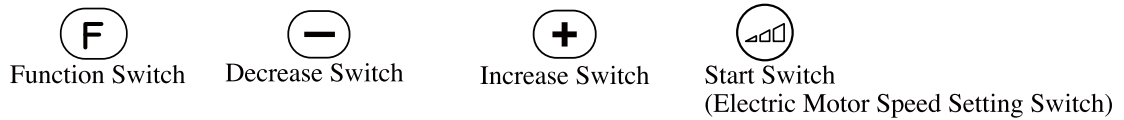

Fig.3-14 Function Switch
⑫ Function Switch (Fig.3-14) E